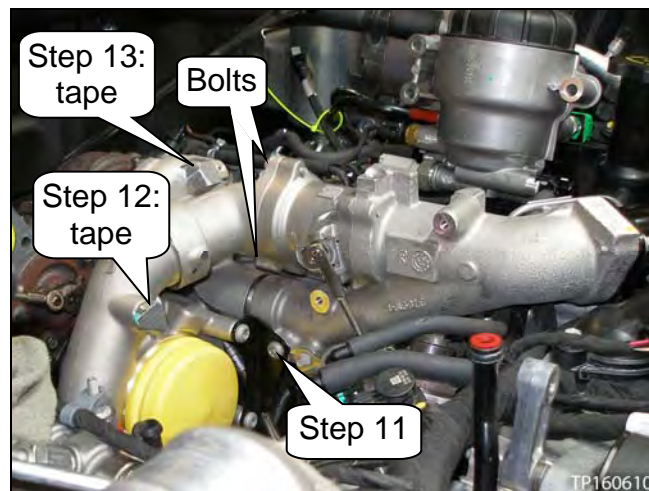

Figure 66
11. Torque the T45 TORX® bolt, and two (2) new bolts shown in Figure 66.
- Remove the tape (see Figure 66).